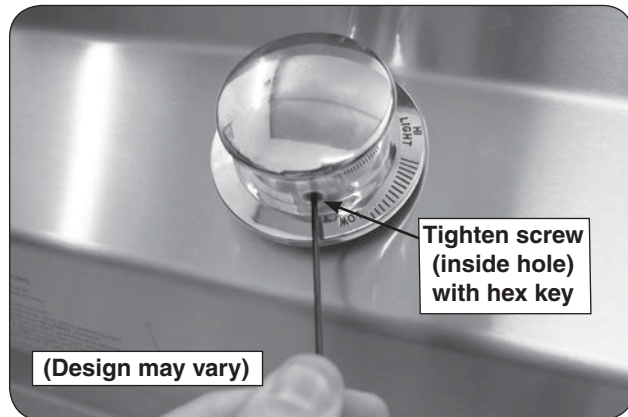

Fig. 23-2 Tighten screw to lock knobs
3. Insert the included .078" (2mm) hex key through the small hole located on the side of the knob and fully tighten the screw (see Fig. 23-2).